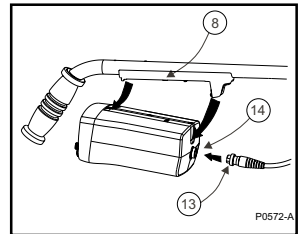

Figure 5 - Mounting the Control Box on the Shaft
- a) Position the control box so that the recess in the control box (1) is aligned with the leading edge of the mounting clip (8). Push the forward section of the control box upwards until the trigger 'clicks' indicating the control box is secured (see figure 5).
- b) Slide in the black plastic rear control box bracket (8).
- d) Clip the control box onto the rear mounting bracket (see figure 5).
- f) Connect the coil connector (13) to the plug (14) on the rear of the control box.